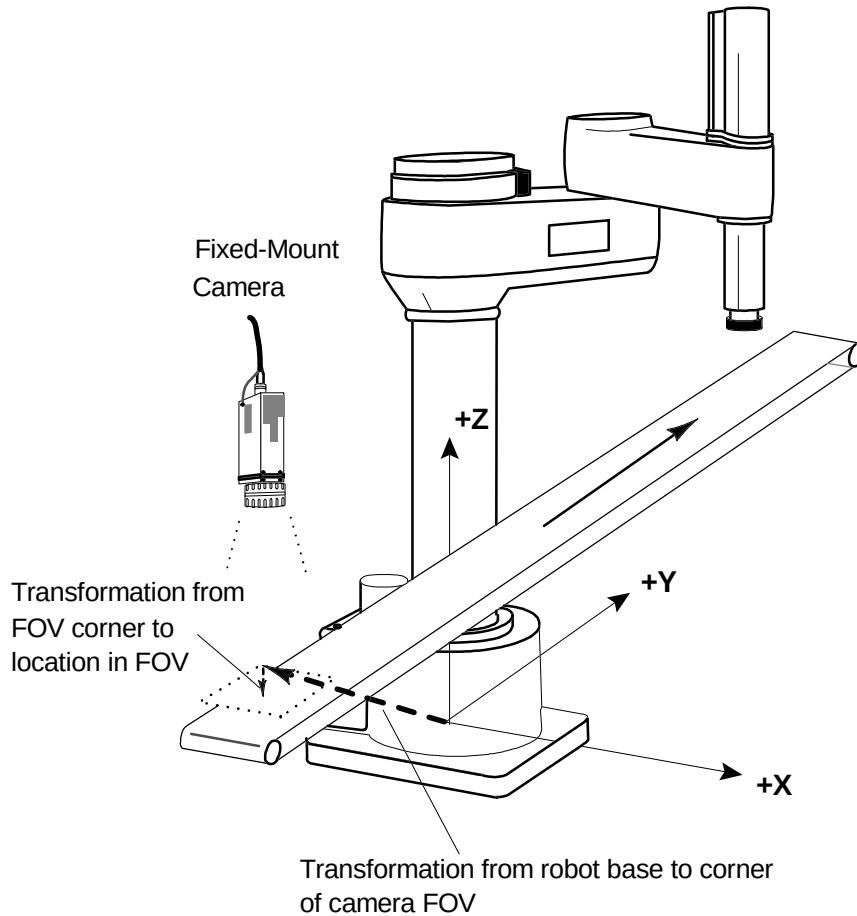

Figure 15-1
3. The height and orientation of the gripper when the part is acquired. This data is created during the first execution of a sequence using the conveyor belt. Figure 15-1 shows the transformation created during camera calibration and the transformation created each time new parts move into the field of view and a picture is taken.